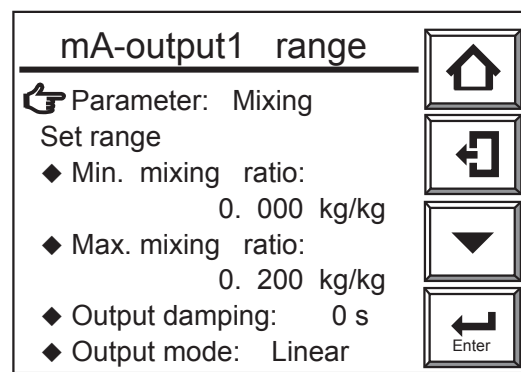

Figure 7.12 Mixing Ratio Display
- (5) The “Mixing” in Figure 7.12 appears.
- (6) Perform the same setting in mA-output2 if necessary.